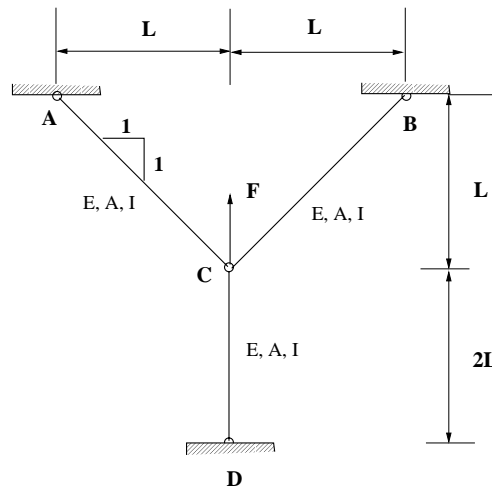

Figure 1: Schematic illustration of problem 1
A pin-jointed 3-column structure is shown in the Figure 1. There is an external force, P , acting on the point C . When external force P is below a critical load, P_{cr} , the position shown in the figure is the initial equilibrium position. (1) What are the internal transverse forces for column AC , BC , and CD when $P < P_{cr}$, why? (2) What are the internal moment for column AC , BC , and CD when $P < P_{cr}$, why? (3) Find internal axial forces for column AC , BC , and CD ; (4) Find the critical load P_{cr} ?